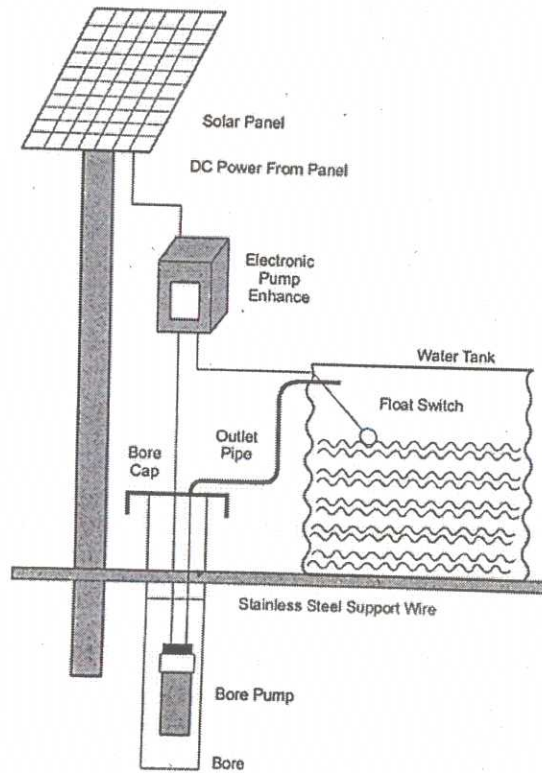

Fig. 2.16 A Solar Water Pump System
A solar water pump system is essentially an electrical pump system in which the electricity is provided by one or several PhotoVoltaic (PV) panels. A typical solar powered pumping system consists of a solar panel array that powers an electric motor, which in turn powers a bore or surface pump. The water is often pumped from the ground or stream into a storage tank that provides a gravity feed, so energy storage is not needed for these systems. A typical installation is illustrated in Fig. 2.16.